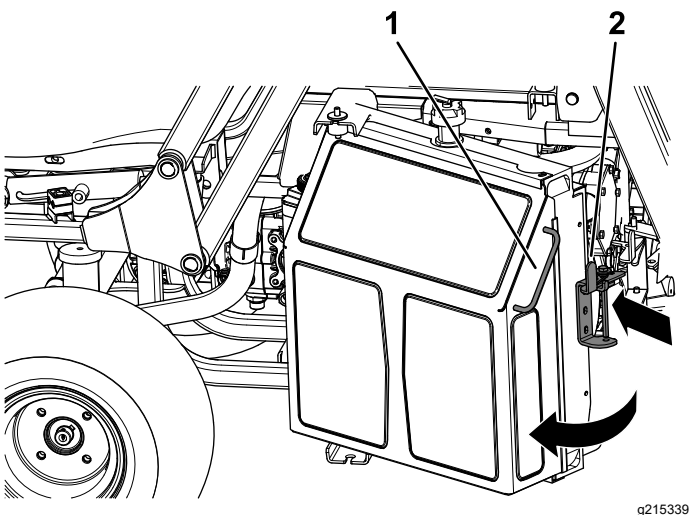

Figure 58
1. Push the latch on the radiator inward toward the radiator (Figure 58).
2. Using the handle on the side of the radiator, rotate the radiator to access the engine (Figure 58).